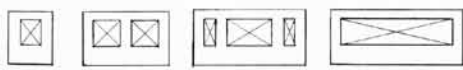

Figure 1 Narrow, Single, Series, & Wide
- They may contain a single opening or a series of windows (**Fig. 1**)